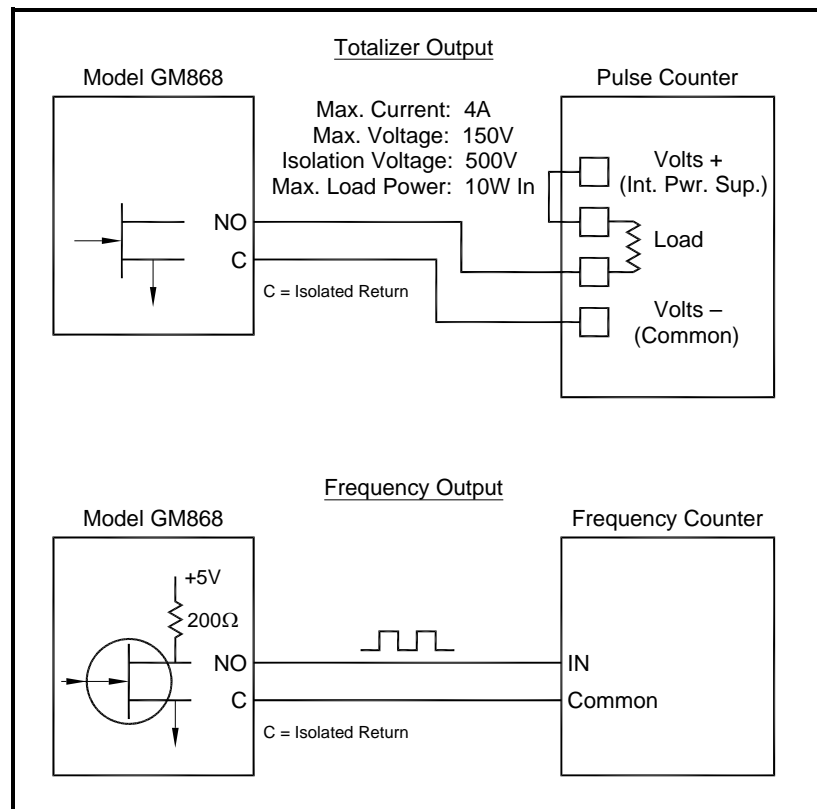
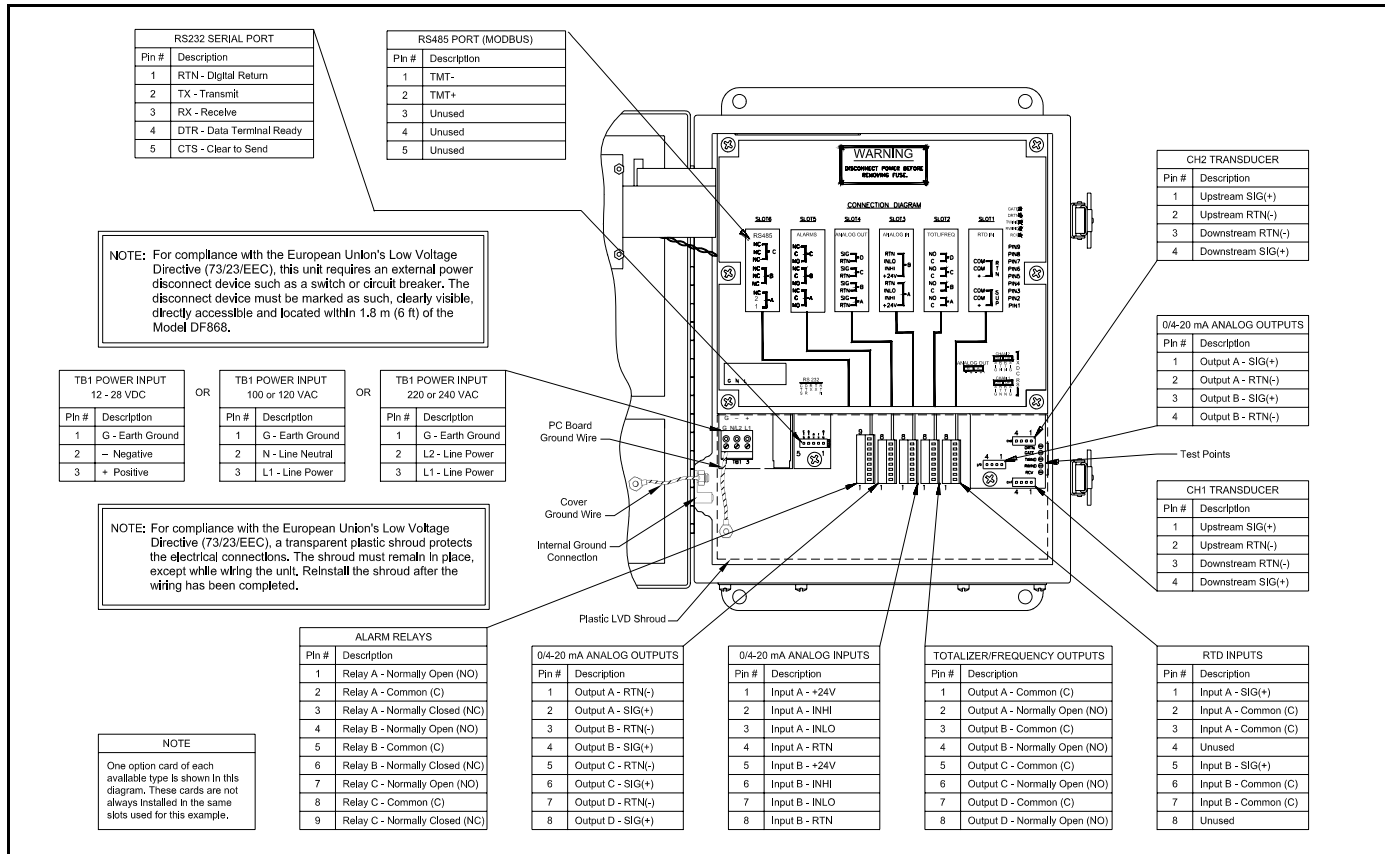

Figure 1-8: Totalizer/Frequency Outputs Wiring
Figure 1-10: Model GM868 Electronics Console Wiring (ref. dwg #702-213, sht 1)
3. Using the pair of coaxial cables with BNC to flying lead connectors supplied by the factory (or equivalent cables), connect the preamplifier to terminal block CH1 in the electronics console. Refer to Figure 1-10 on page 1-20 for the location of the terminal block and the terminal block pin assignments.
The standard configuration of the Model GM868 flowmeter includes two isolated 0/4-20 mA analog outputs (designated as A and B). Connections to these outputs may be made with standard twisted-pair wiring. The current loop impedance for these circuits must not exceed 550 ohms. Refer to Figure 1-10 on page 1-20 for the location of terminal block I/O and wire the terminal block as shown.
The RS232 serial interface is wired as Data Terminal Equipment (DTE), and the signals available at the Model GM868 RS232 terminal block are shown in Table 1-1 below. Refer to Figure 1-10 on page 1-20 to locate terminal block RS232 and complete the following steps to wire the terminal:
To wire the RS485 serial port, refer to Figure 1-10 on page 1-20 and complete the following steps:
Connect the two wires required for each alarm relay in accordance with the pin number assignments shown in Figure 1-10 on page 1-20.
Wire the analog input terminal block in accordance with the pin number assignments shown in Figure 1-10 on page 1-20.
Each totalizer/frequency output requires two wires. Wire this terminal block in accordance with the pin number assignments shown in Figure 1-10 on page 1-20. Figure 1-8 below shows sample wiring diagrams of a totalizer output circuit and a frequency output circuit.
Each RTD input requires three wires, which should be fed through one of the conduit holes on the bottom of the electronic console. Wire this terminal block in accordance with the pin number assignments shown in Figure 1-10 on page 1-20.
Connections to these outputs may be made with standard twisted-pair wiring. The total current loop impedance for these circuits must not exceed 1000 ohms. Wire this terminal block in accordance with the pin number assignments shown in Figure 1-10 on page 1-20.